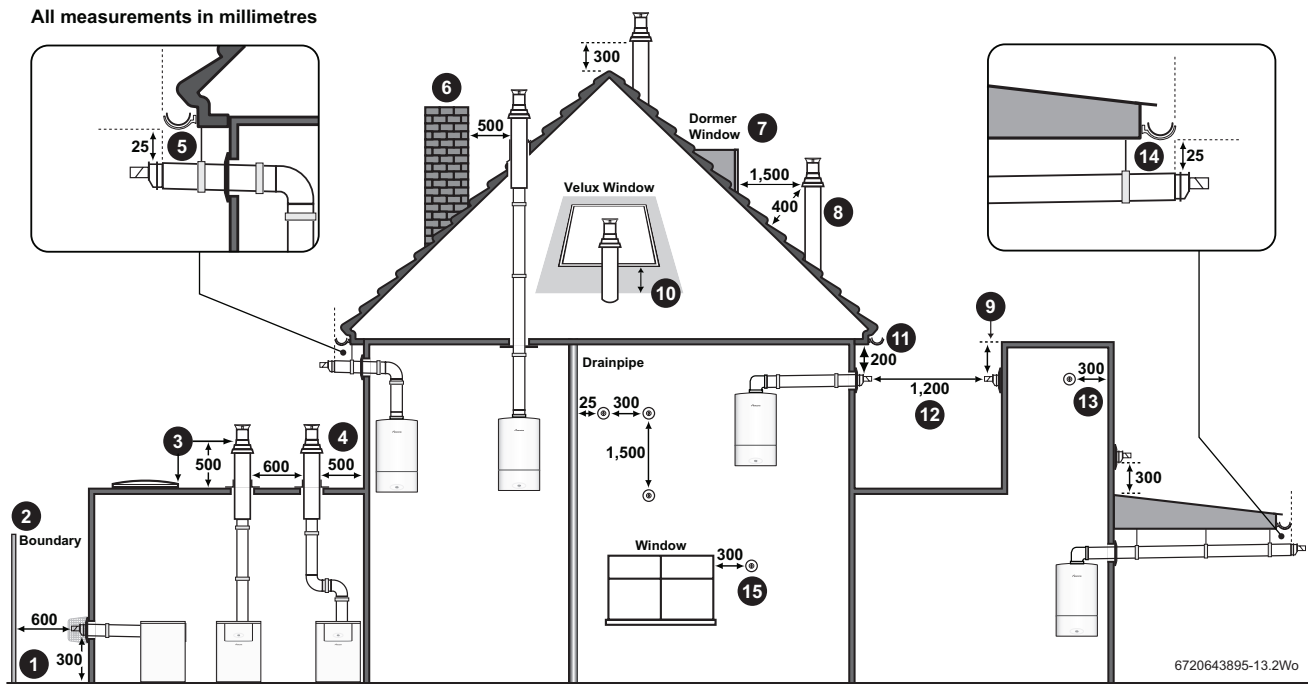

Fig. 19 Flue terminal positions
- ▶ Refer to figure 19 for all concentric flue terminal positions unless the flue position is specified in the figure above "Plume terminal positions".